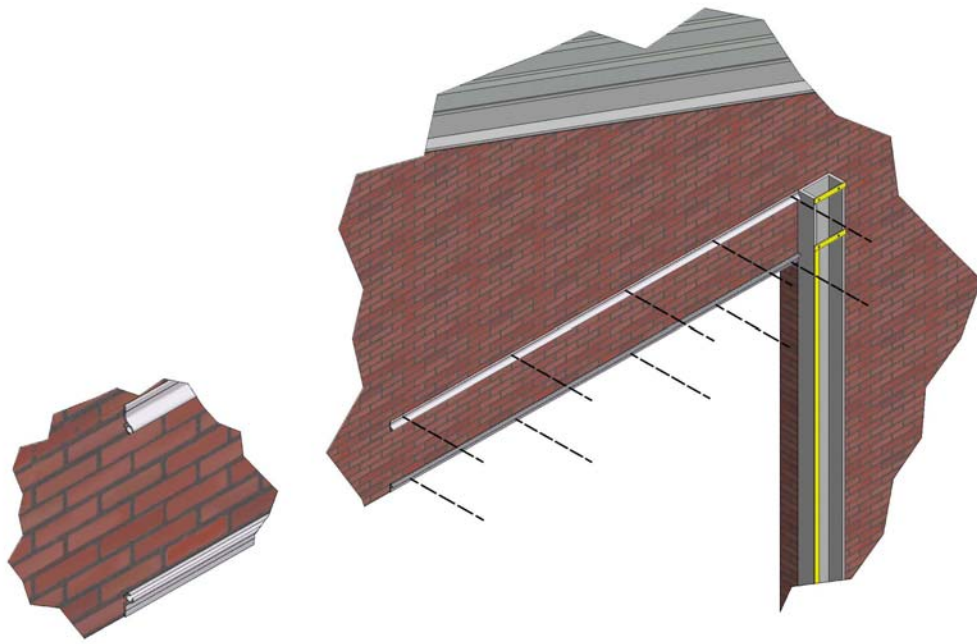

Figure 20
7.1 Overview: With the flutes facing each other fix Aluminium Profile (PB1) to building with M5.5 x 50 Screws (PE1) at 1m centres. Align the upper section with the top of the Tracking and the lower section to the top of the door opening (Figure 20). To allow the Panel (PA1) to be fed into the Profile do not secure the last 2m.